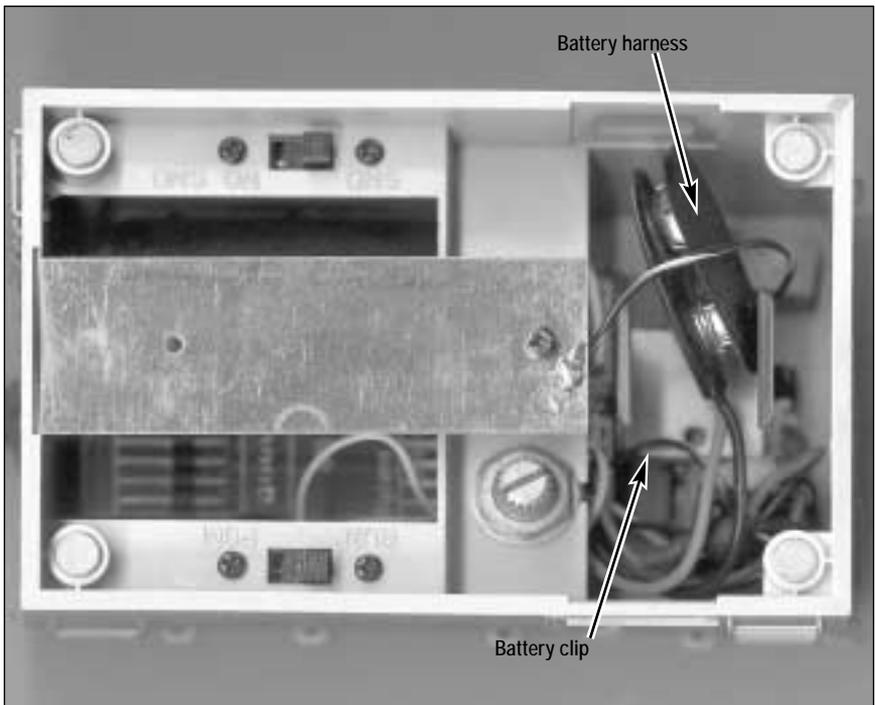

Figure 2. Battery installation
**F**or continuous operation of the crane sounds over interruptions in track power, we recommend that you install a nine-volt alkaline battery (not included). Refer to Figure 2 for the location of the battery harness and clip.